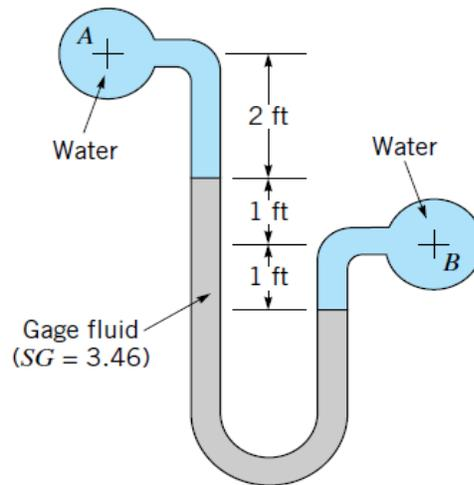

Fig. 7
7. The manometer fluid in the manometer of Fig. 7 has a specific gravity of 3.46. Pipes A and B both contain water. If the pressure in pipe A is decreased by 1.3 psi and the pressure in pipe B increases by 0.9 psi, determine the new differential reading of the manometer.